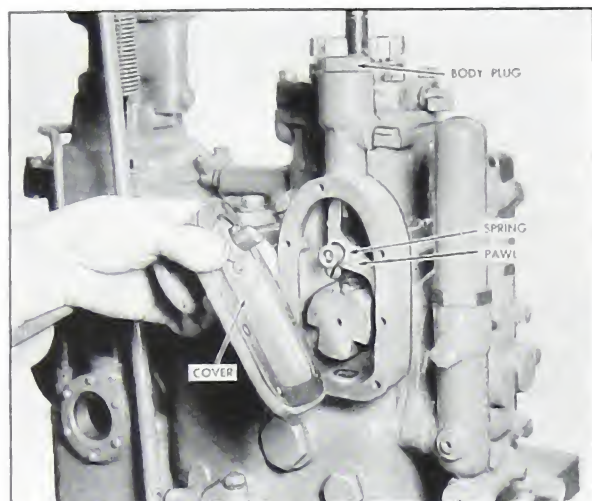

Fig. 5-4. Overspeed stop cover plate
3. With a heavy-duty screw driver remove the four fillister head screws and lockwashers. Lift the assembly from the fuel pump. Fig. 5-4.